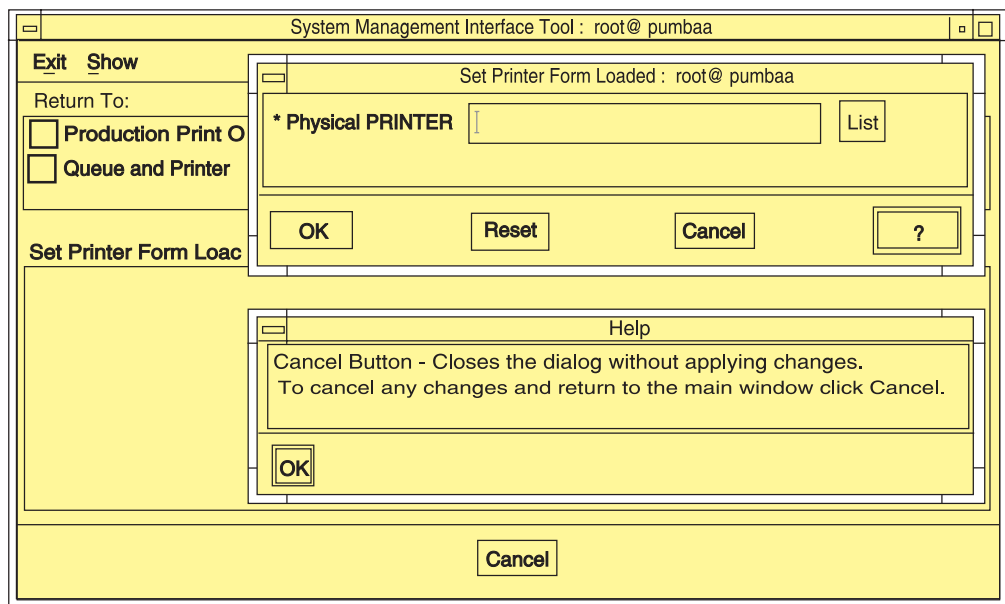

Figure 26. Help for SMIT Window Fields and Buttons
1. Select the button labeled with a question mark at the bottom right of the window. A **Help** window displays beneath the SMIT window. Figure 26 shows the results of selecting the question mark button.